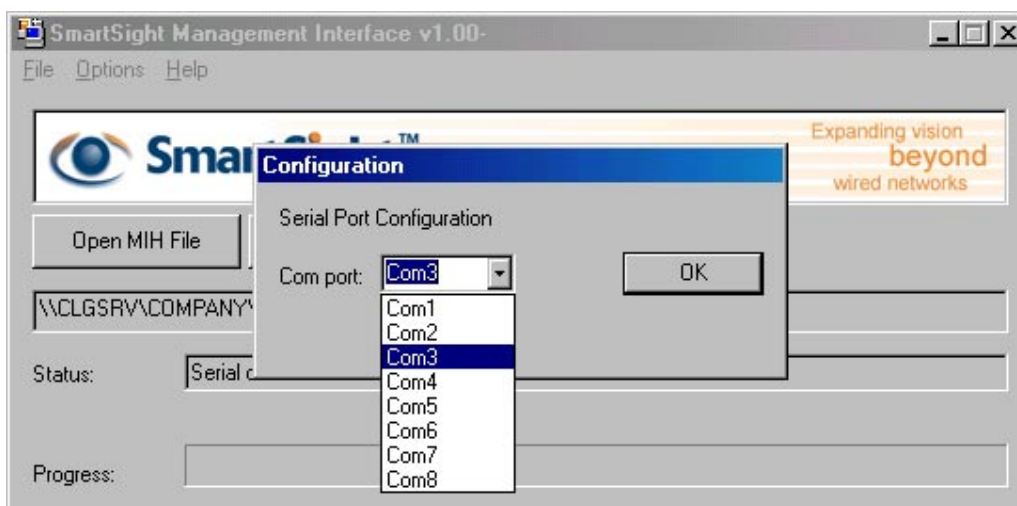

Figure 12 Serial Port Configuration Window
- STEP 2. If you are not using your computer's COM1 serial port (the default port used by the SMI program after installation), you will have to select the correct serial port number on your computer by choosing the <Options>, <Serial port setup> path from the SMI menu. A window as the one showed in 'Figure 12' will appear.